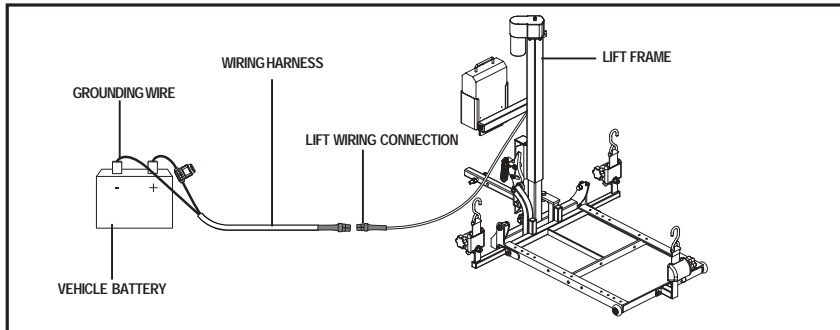

Figure 7. Wiring Harness Installation
1. Route the lift system wiring harness (starting at the lift) through the interior of the vehicle until you reach the vehicle battery. See figure 7. You will typically find pass through points at the rear lighting assemblies, which will enable you to route the cable through the trunk and under the back seat.